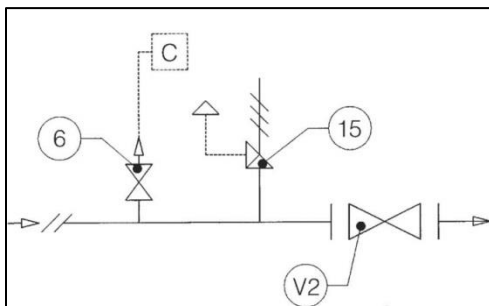

Figure 11: Direct connection to the line
4.1.1 DIRECT INSTALLATION IN THE LINE (fig. 11).